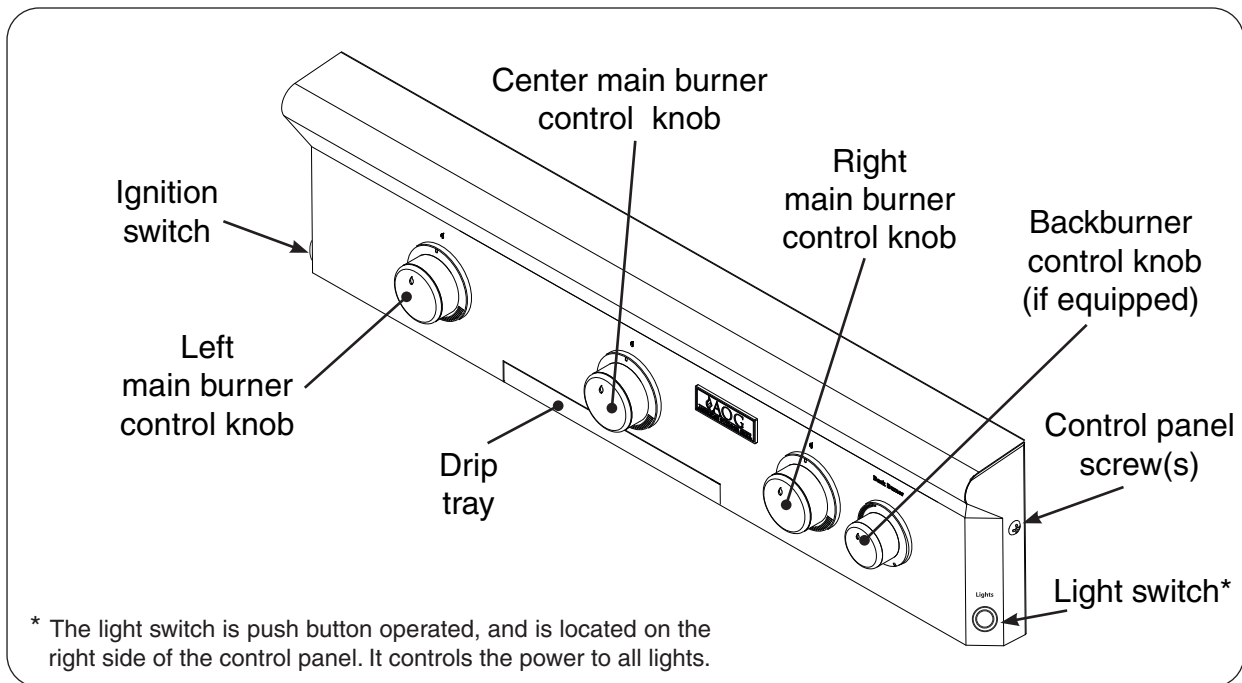

**Fig. 23-1** Electrical installation
1. Route the wire harness extension below the control panel and directly downward. This will prevent overheating. **DO NOT** route the wire extension below the grill. See Fig. 23-1, A.
2. Mount the power supply to the inside of the enclosure using appropriate hardware for your enclosure. It **MUST** be located at least 12 inches below the bottom of the unit. See Fig. 23-1, B.
3. Connect the cord coming from the power supply to a **120VAC (15 AMP minimum) GFCI GROUNDED 3-wire receptacle** (see Fig. 23-1, C). The GFCI receptacle must be a WEATHER-PROOF IN-USE COVERED RECEPTACLE.